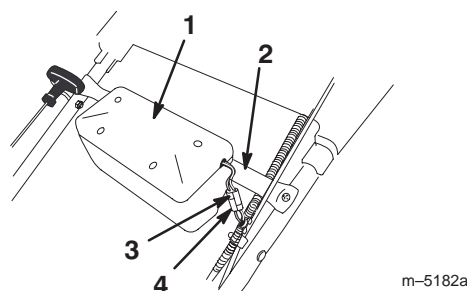

Figure 7
2. Align the pins in the battery case with the holes in the battery bar, and lower the pins into the holes until the battery case snaps into place (Fig. 7).
3. Connect the wire lead from the battery to the wire lead from the electrical wire harness in the corrugated tube (Fig. 7).